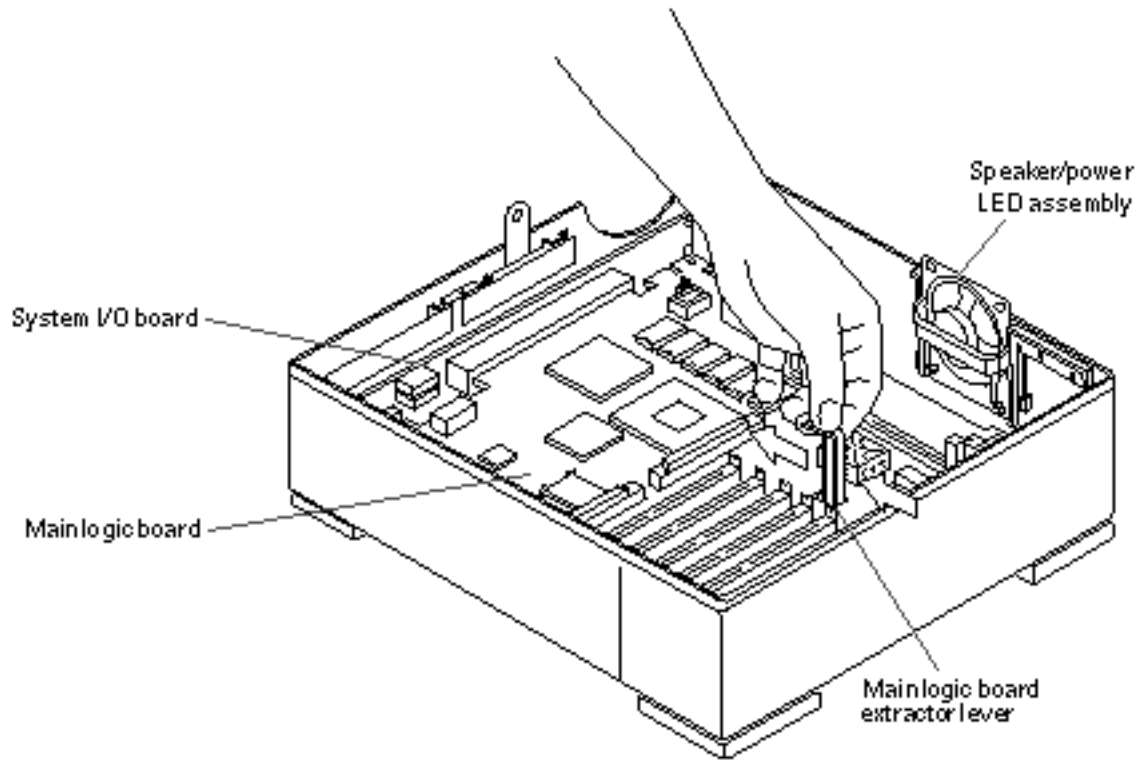

Figure 8-8 Plugging in the Main Logic Board
This section describes the removal and replacement procedures for the speaker/power LED assembly. This assembly is mounted on the right-hand side of the system unit bottom (see Figure 8-8).
- d. Push the main logic board extractor lever toward the rear of the system unit to plug the main logic board into the system I/O board (see Figure 8-8).